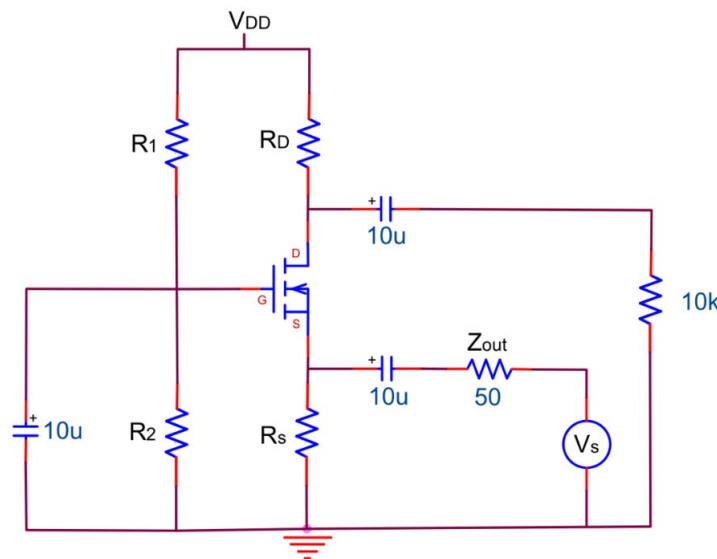

Figure 11.1
1. Refer to Figure 11.1. Using the 2N7000 MOSFET, design a common gate amplifier with the following specifications: